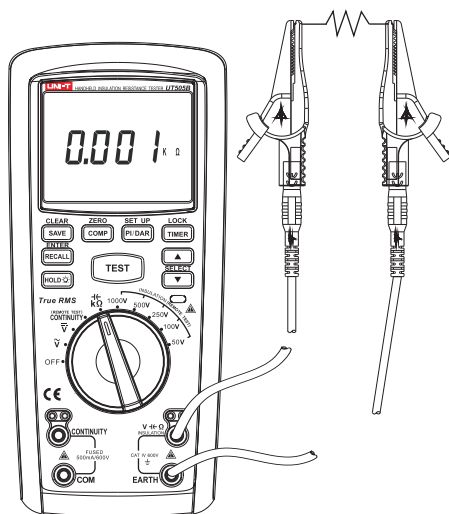

Figure 7
4.1 Measuring of Resistance (See Figure 7)
- ① Insert the red probe into "V" jack (red jack), and black one into "EARTH" jack (black jack).
- ② Rotate dial switch to "KΩ/⚡" tap position and connect the probe to two ends of tested resistance in parallel.
- ③ Read current measuring value of resistance from the display.
- ④ In measuring, if intending to save measured resistance, press the key of "SAVE/CLEAR" for saving.